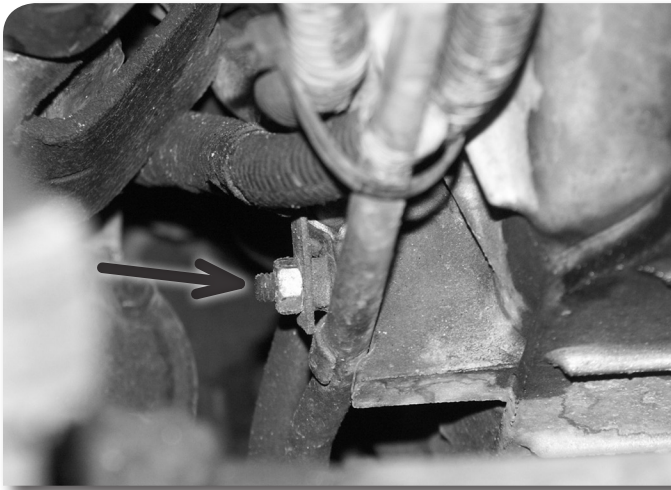

Figure 17
27. Remove the bolt/clip mounting the oil cooler lines to the passenger's side of the engine oil pan Figure 17. Remove the lines from the pan.